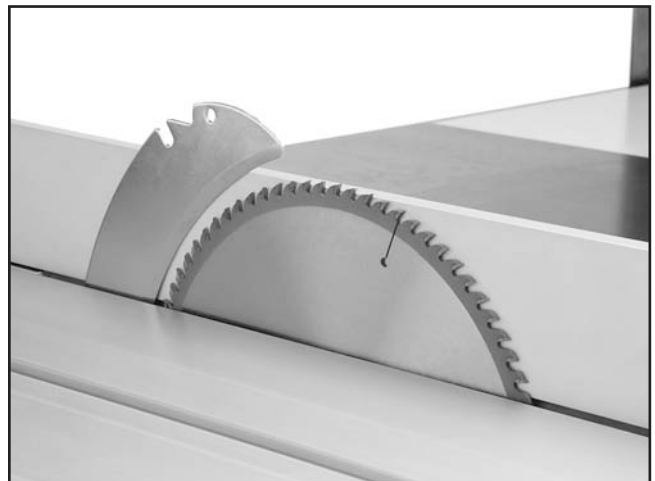

Figure 38. Rip fence against the saw blade.
41. Raise the main saw blade all the way up, then slide the rip fence against it without pushing on it, as shown in **Figure 38**.